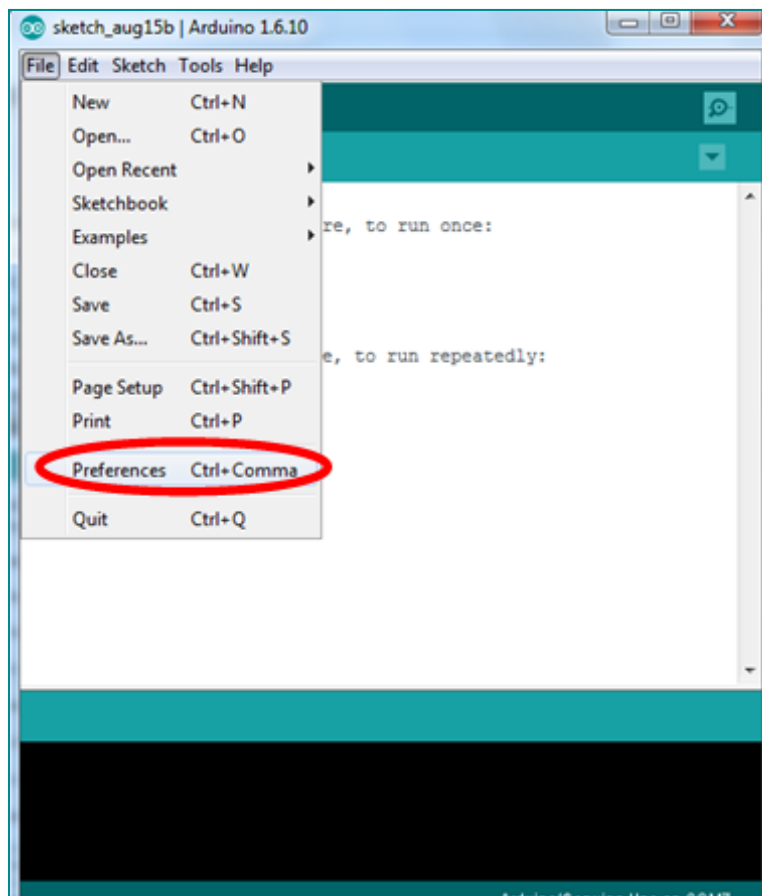

Figure 3-2. Selecting the sketchbook provided with the Grove Starter Kit as the default sketchbook.
3. Click **Preferences** and a pop-up screen will open (see Figure 3-2).